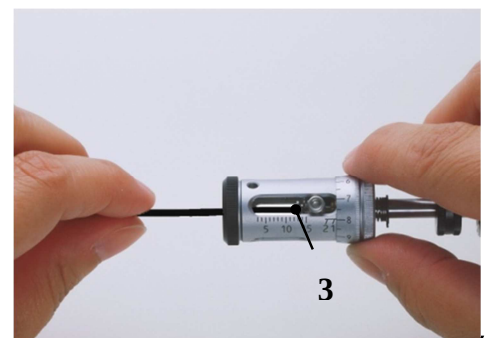

Fig 5.Insert the cable
- Insert the cable horizontally through the head opening, until the end of the cable is touching the stopper (3). (Fig. 5)